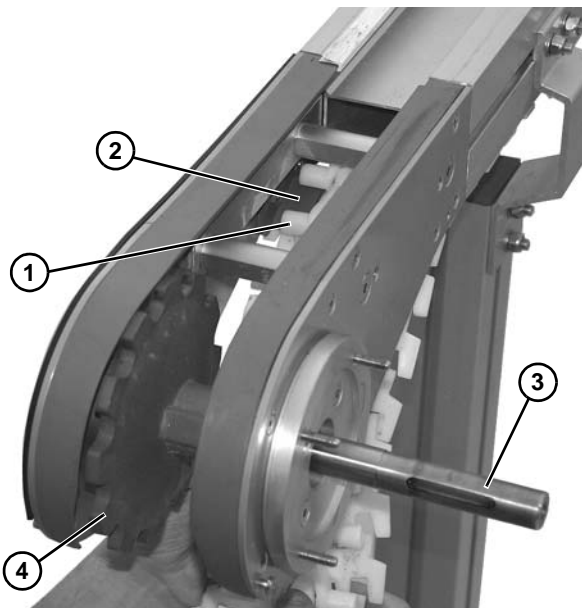

Figure 11
3. Continue wrapping belt (Figure 11, item 1) on top of idler tail retaining guide (Figure 11, item 2), continuing to turn shaft (Figure 11, item 3) to guide belt around cogs (Figure 11, item 4) of shaft.